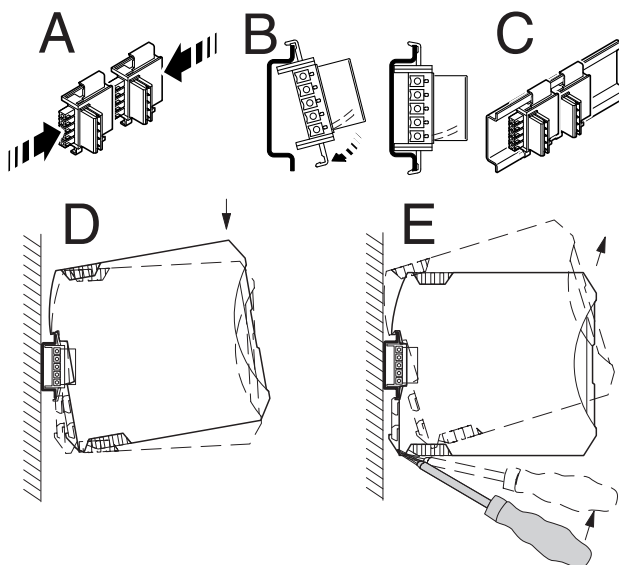

Figure 4-4 Mounting and removal
3. Place the device onto the DIN rail from above (see Figure 4-4, D). Make sure that the device and DIN rail connector are aligned correctly.
1. Use a suitable screwdriver to release the locking mechanism on the snap-on foot of the device (see Figure 4-4, E).